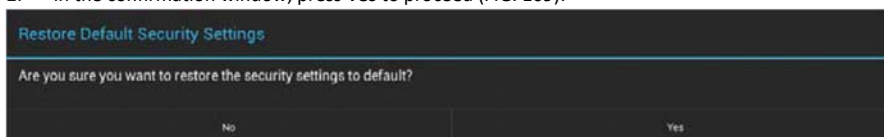

FIG. 109 Confirm - Restoring the Default Security Settings
2. In the confirmation window, press **Yes** to proceed (FIG. 109):